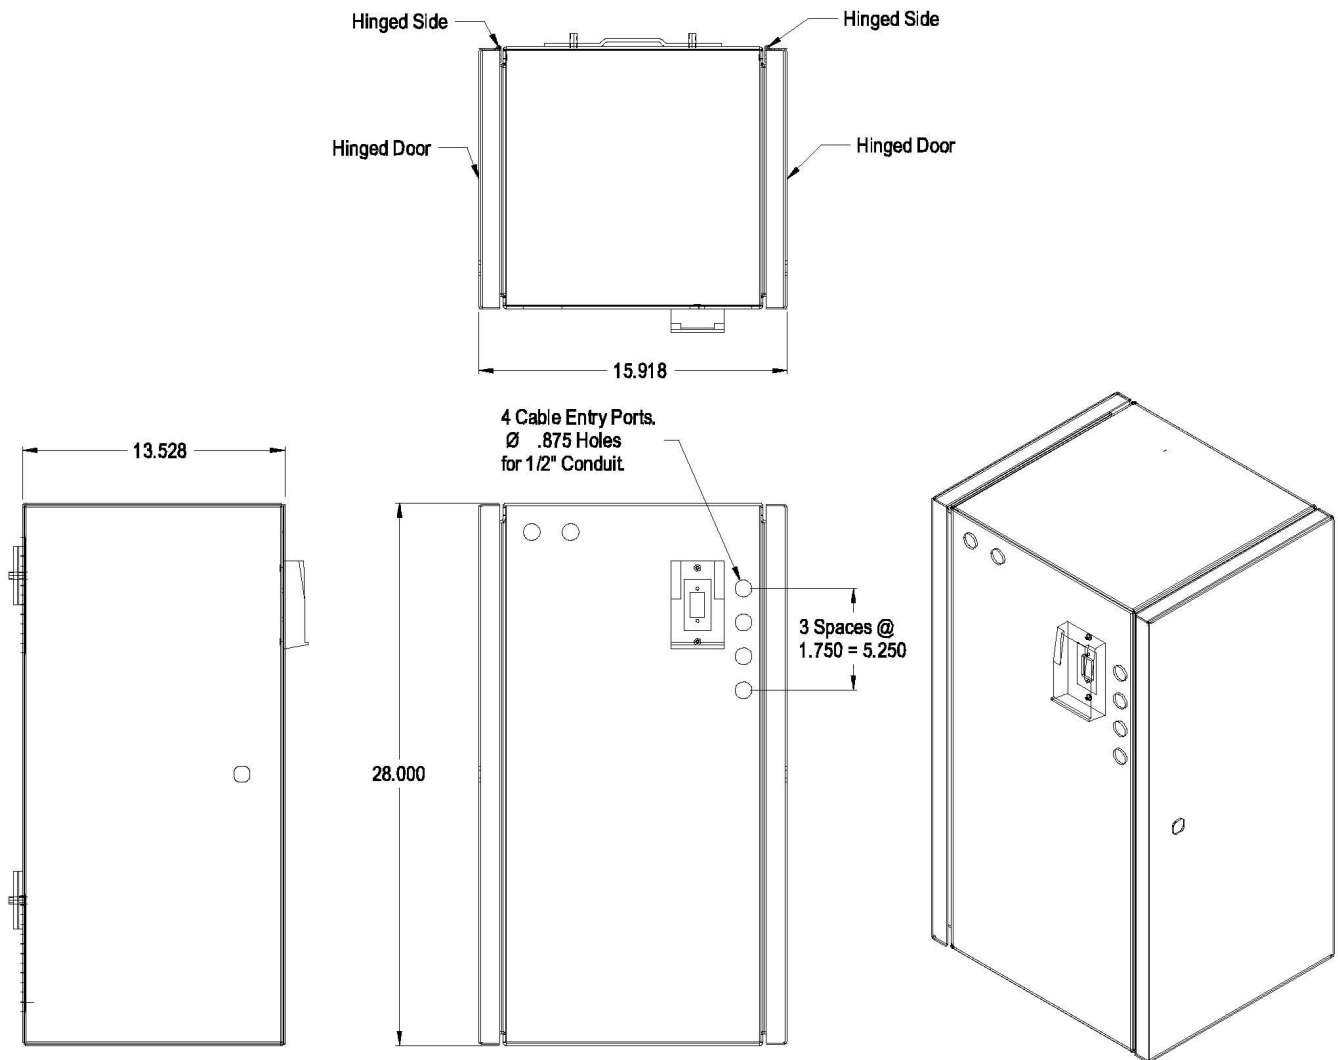

Figure 2: XUPS-1500-7070 Dimensions
1.4 OVERALL DIMENSIONS – The Outdoor XUPS-1500-7070 cabinet is 28" (71.1cm) H x 13.5" (34.3cm) W x 15.75" (40cm) D and weighs 270 lbs. (129 kg) with eight batteries (see Figure 2).